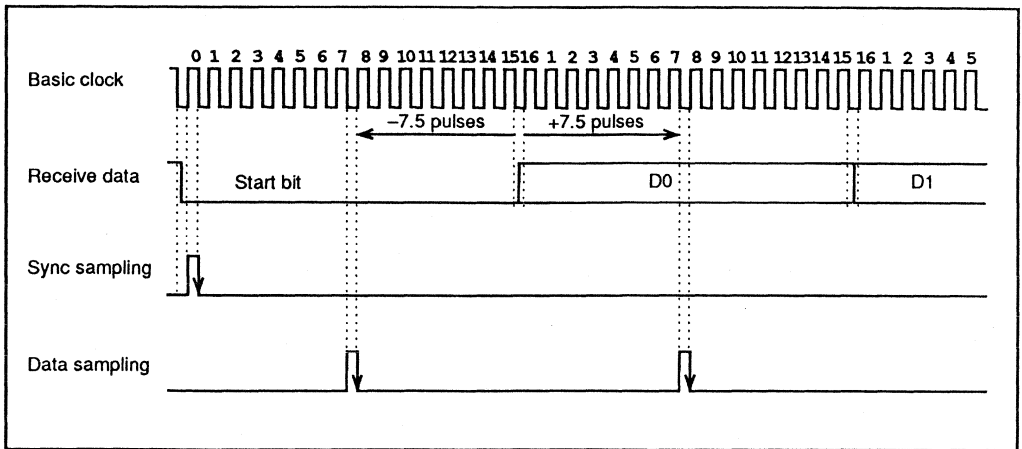

Figure 9-6. Sampling Timing (Asynchronous Mode)
(4) Sampling Timing and Receive Margin in Asynchronous Mode: The serial clock used by the SCI in asynchronous mode runs at 16 times the baud rate. The falling edge of the start bit is detected by sampling the ARxD input on the falling edge of this clock. After the start bit is detected, each bit of receive data in the frame (including the start bit, parity bit, and stop bit or bits) is sampled on the rising edge of the serial clock pulse at the center of the bit. See Figure 9-6.